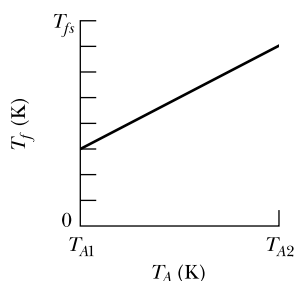

Figure 18.30 Problem 74.
**74** In a series of experiments, block  $B$  is to be placed in a thermally insulated container with block  $A$ , which has the same mass as block  $B$ . In each experiment, block  $B$  is initially at a certain temperature  $T_B$ , but temperature  $T_A$  of block  $A$  is changed from experiment to experiment. Let  $T_f$  represent the final temperature of the two blocks when they reach thermal equilibrium in any of the experiments. Figure 18.30 gives temperature  $T_f$  versus the initial temperature  $T_A$  for a range of possible values of  $T_A$ , from  $T_{A1} = 0\text{ K}$  to  $T_{A2} = 500\text{ K}$ . The vertical axis scale is set by  $T_{fs} = 400\text{ K}$ . What are (a) temperature  $T_B$  and (b) the ratio  $c_B/c_A$  of the specific heats of the blocks?